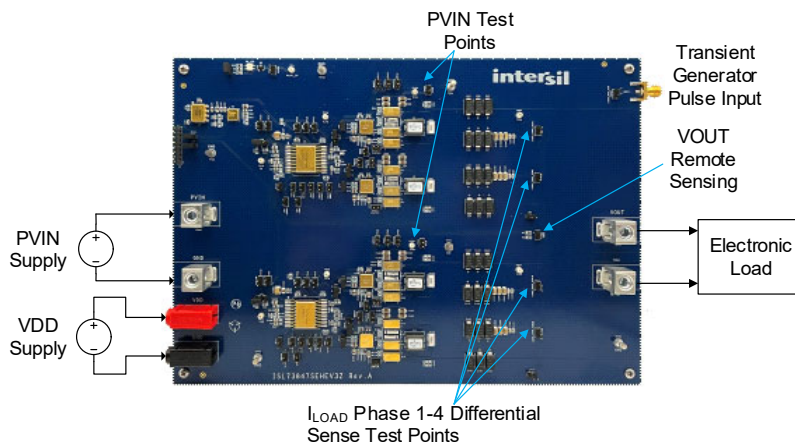

Figure 3. ISL73847SEHEV3Z Board Setup
5. Apply a 5V voltage to the PVIN metal banana plug connectors as shown in Figure 3. To monitor PVIN on the board, use TP27 or TP65. TP27 is closer to Phase 1 and 3, TP65 is closer to Phase 2 and 4.
6. Apply a 9V to 13.2V voltage to the VDD banana connectors as shown in Figure 3 to use the on-board clock generator. If using an off-board external clock generator, VDD can be 5V to 13.2V.
7. If required, a resistor or electronic load can be connected to the VOUT metal banana plug connectors as shown in Figure 3. If using an electronic load, you can add 4W sense lines on the TP29 test jumper.